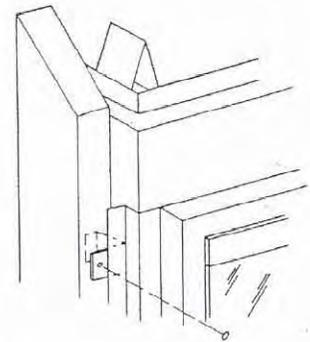

Figure 8
**Step 3.** Position the appliance into prepared framing, nailing with 6d nails through the nailing flange holes (Figure 8).